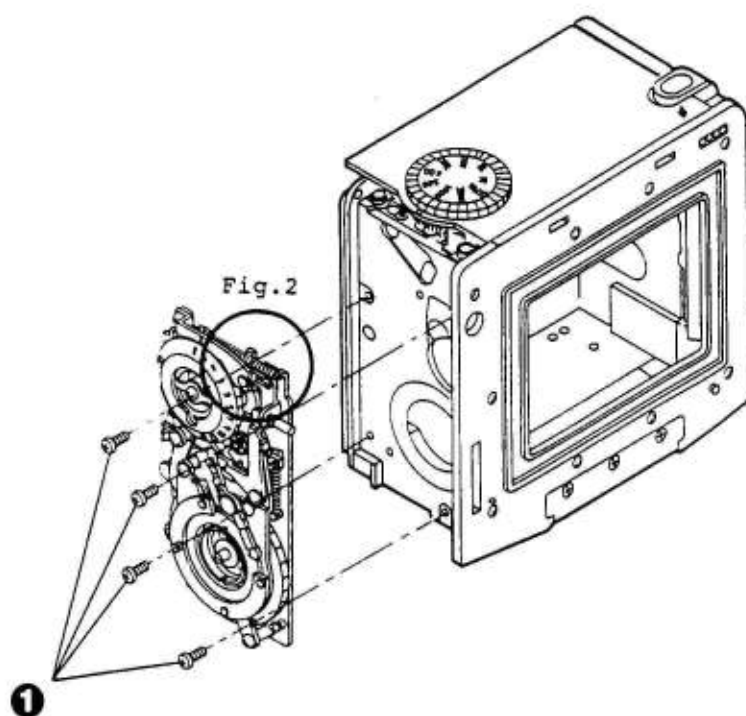

Fig.1
1. Remove four screws ①. (See Fig. 1.)